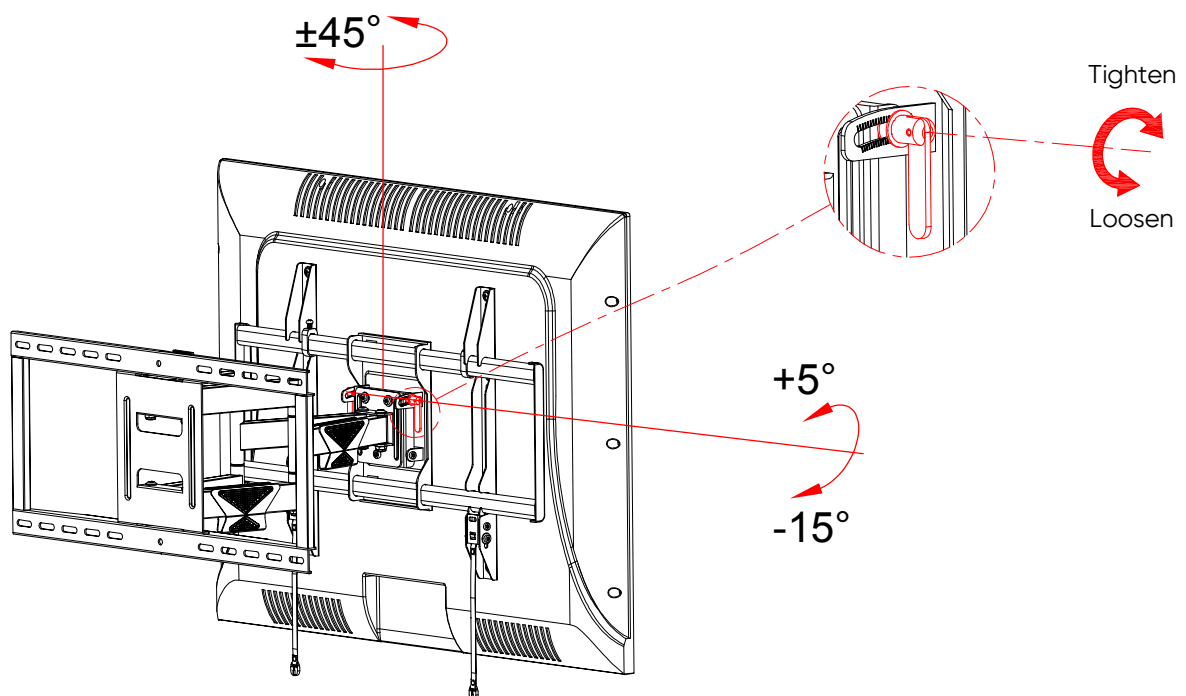

Figure 7
**Step 6:** You may need loosen the handle to tilt TV to your desired angle, please remember to fasten the handle tightly after adjustment. (Figure 7)